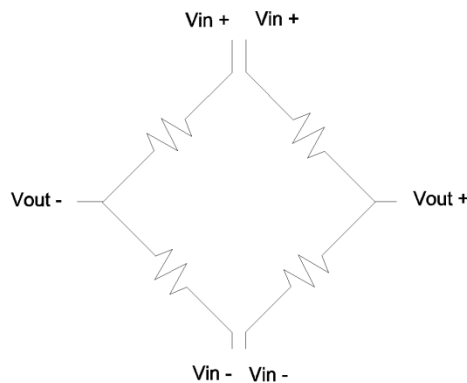

Figure 3 – Full open bridge
c. *Full Open* - A bridge that is divided into two branches, which are open at both ends (See Figure 3).